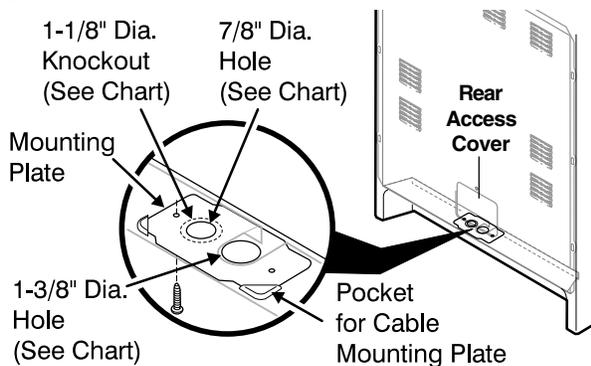

Fig. 9
See range connection opening size chart (Figs. 9 & 10) for cord kit ampere rating information. Terminals on end of wires must be either closed loop or open-end spade lugs with upturned ends.
The Rear Access Cover must be removed (Fig 9). To remove, loosen center screw (one screw) and remove cover. The terminal block will then be accessible.
**NOTE:** Range is shipped from factory with 1-3/8" dia. hole as shown. To use either 7/8" dia. hole or 1-1/8" dia. knockouts refer to Fig. 9.
1. Follow the manufacturer's installation instructions supplied with the strain relief and install (Also see Figs. 9, 10 & 11).
5. Make sure all screws are tightened securely and replace the rear access cover (See Fig. 9).
3. Make sure all connections are tightened securely and replace the rear access cover (See Fig. 9).
5. **(3 & 4 - Wire Permanent Connections)** Make sure all connections are tightened securely and replace the rear access cover (See Fig. 9).